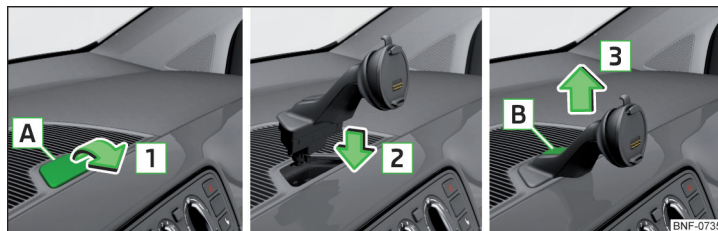

Fig. 86 Install/remove the fixture for the device
- Insert e.g. a coin in the opening » Fig. 86 and carefully open the cap in the direction of arrow .
- With the other hand, press the release button » Fig. 86.